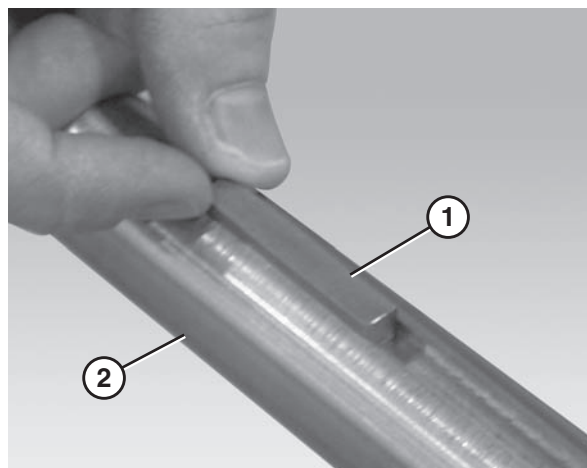

Figure 13
1. Insert the drive spindle key (Figure 13, item 1) into the drive spindle keyway (Figure 13, item 2).